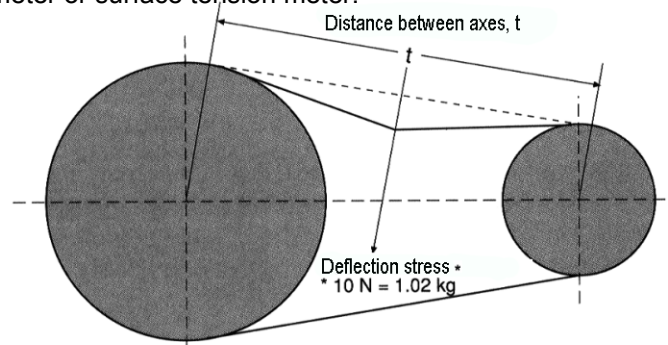

Fig.4
- Measure the tightening length (see the t distance in Fig.4).